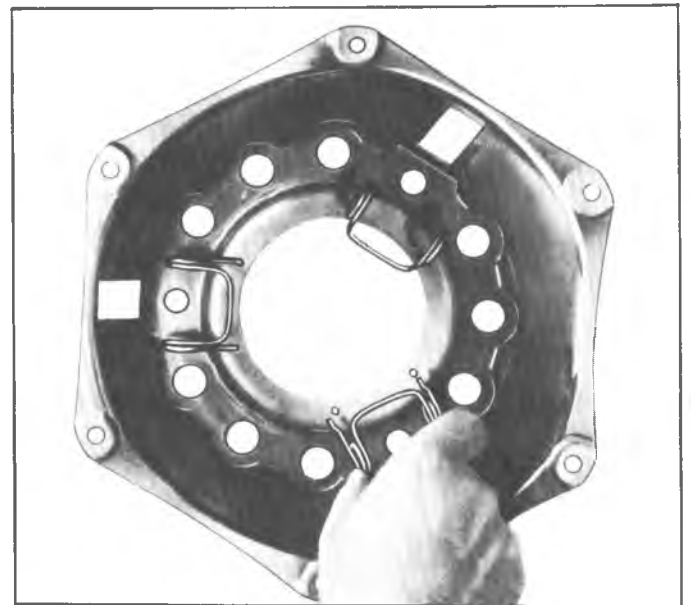

Fig. 9E-Installing Anti-Rattle Spring
7. Assemble anti-rattle springs in cover (Fig. 9E). The spring to the left is in operating position.